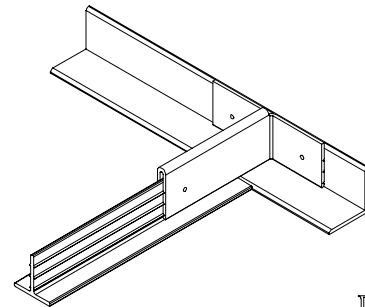

FIG. 2
5. Install wall clips at the starting end of Main Runners. They should rest on top of wall angle, and be securely attach to wall to prevent shifting during grid installation. **FIG. 2**
6. Install Wall Clips at terminating end of Main Runners. Attach to wall depending on local codes. **FIG. 2**
2. Cut Cross Tees to length for the border area and install Wall Clips at the wall end. Attach to wall depending on local code. **FIG. 2**